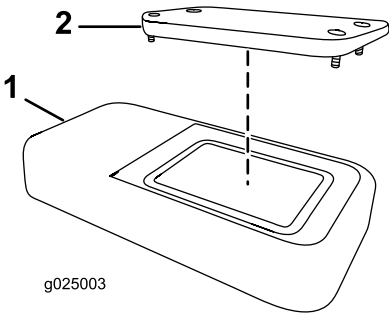

Figure 61
2. Remove the cover (Figure 61).